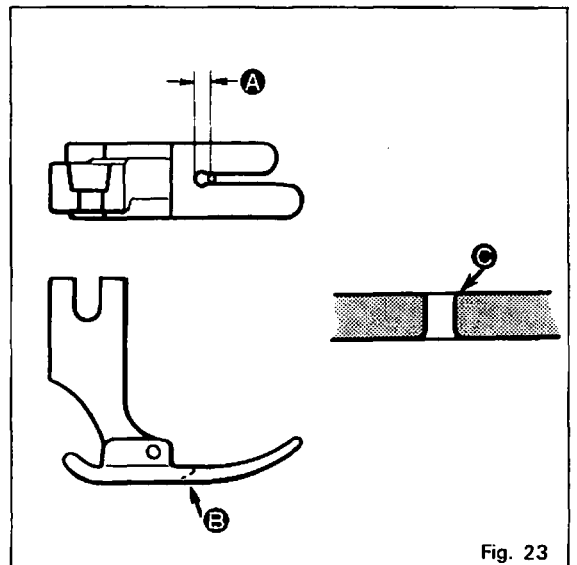

Fig. 23
- IV) In order to avoid the skip stitch and upper thread-off at the beginning, select the following parts with much attention. (Fig. 23)